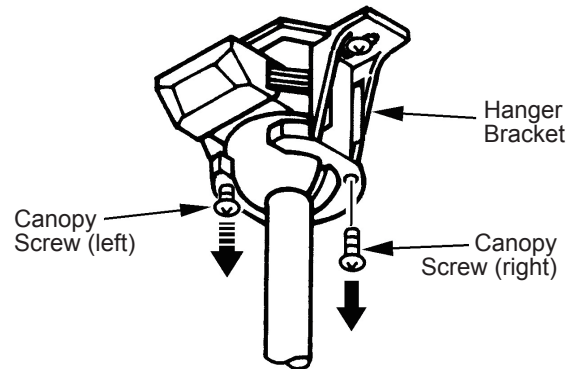

Figure 5.10
Step 10. Loosen the left Canopy Screw and remove the right Canopy Screw on the bottom of the Hanger Bracket. (Fig. 5.10)